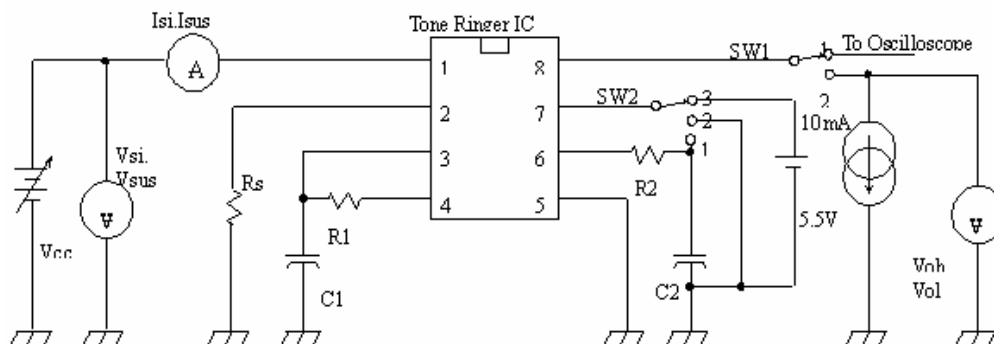
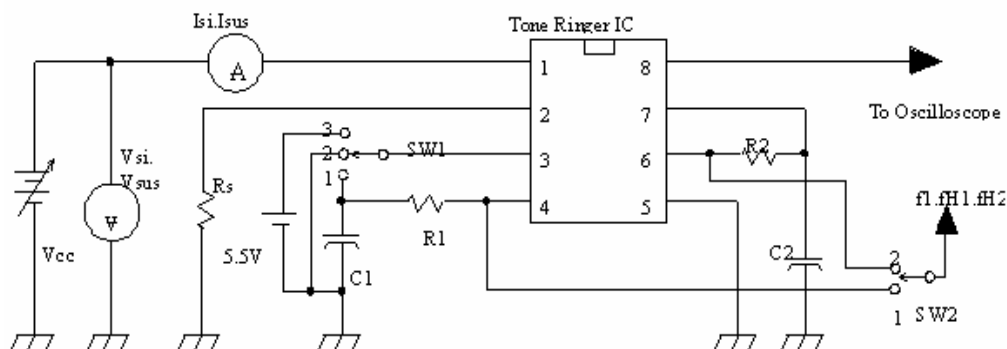

Figure 2. Test Circuit (1)
Figure 3. Test Circuit (2)
3. Ringing start voltage is the value of AC supply voltage required to start the tone ringer ringing in FIG.3
Pin 2 allows connection of an external resistor RSL, which is used to program the slope of the supply current vs supply voltage characteristics (see Fig2), and hence the supply current up to the initiation voltage (VSI). This initiation voltage remains constant independent of RSL.
The supply current drawn prior to triggering varies inversely with RSL, decreasing for increasing value of resistance. Thus, increasing the value of RSL will decrease the amount of AC ringing current required to trigger the device. As such, longer subscriber loops are possible since less voltage is dropped per unit length of loop wire due to the lower current level. RSL can also be used to compensated for smaller AC couplin capacitors (C5 on Fig 3) (higher impedance) to the line which can be used to alter the ringer equivalence number of a tone ringer circuit. The graph in Fig2 illustrates the variation of supply current with supply voltage. Three curves are drawn to show the variation of initiation current with RSL. Curve B(RSL=6.8KW) shows the I-V characteristic for the TS31002 tone ringer.